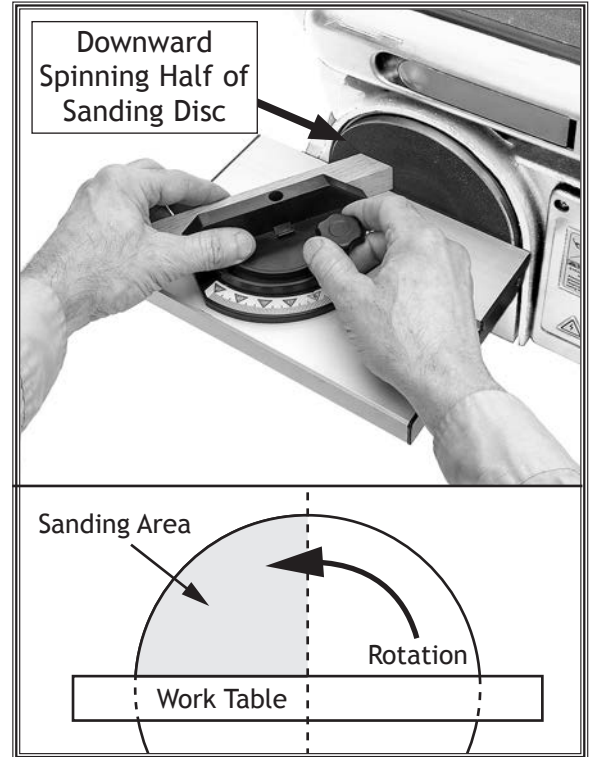

Figure 16. Disc sanding with miter gauge.
3. Place workpiece on work table. Brace it against miter gauge, if necessary (see **Figure 16**).